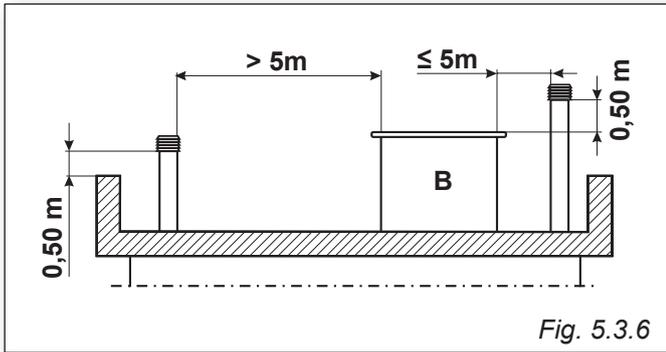

Fig. 5.3.6
Legenda Fig. 5.3.6: Tetto piano
(UK)Legenda Fig. 5.3.6: Tetto piano
(DE)Legenda Fig. 5.3.6: Tetto piano